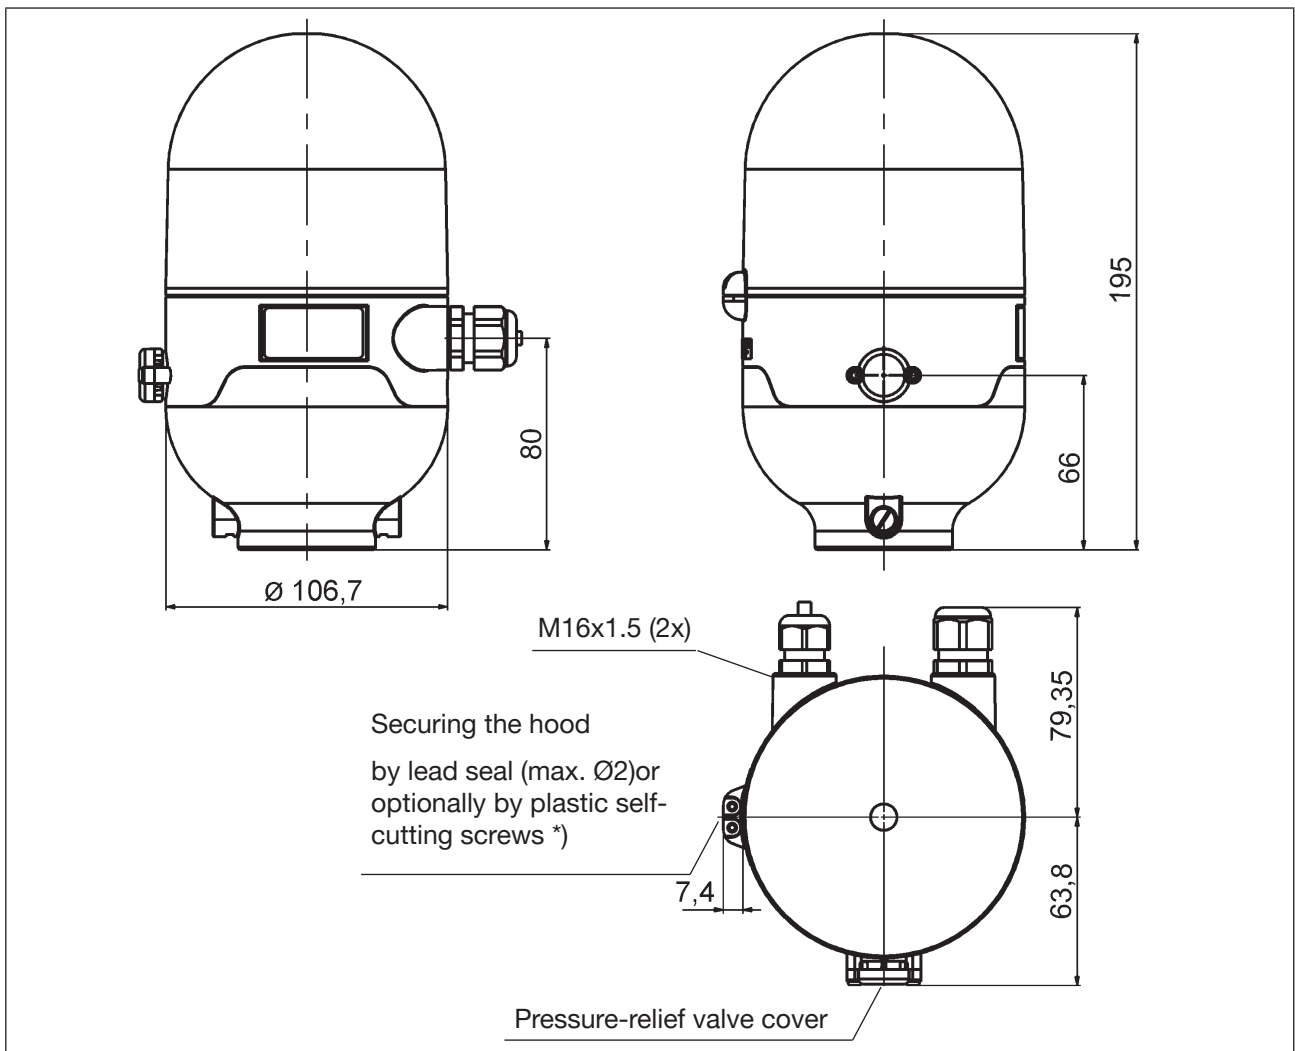

Fig. 6: Dimensional drawing (for designs without solenoid valves)
- The capability of restricting the pilot valves (solenoid valves) for the individual setting of the expansion and retraction rates of the process valve and the individual setting of the flow rate of the working connections - “Fig. 6”.